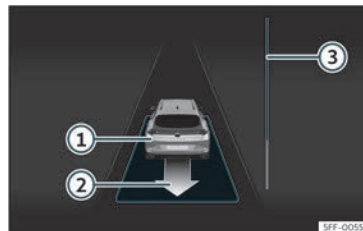

Fig. 179 On the instrument panel display: exit a parallel parking space.
- Reverse until the continuous ParkPilot signal sounds; **OR:** reverse until the instrument panel display shows the forward indication. The progress bar >>> **Fig. 179 ③** indicates the distance to cover >>> page 276.